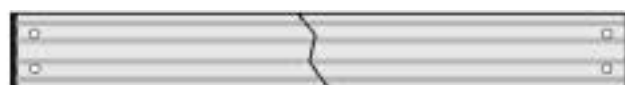

Figure 6 Barrier Cross Bar Support
- Remove and assemble the Barrier Cross Bar Support (Part #6 on EVD) and two Barrier Cross Bar Brackets (Part #7 on EVD) as shown in Figure 6, 7 and 8 at right.